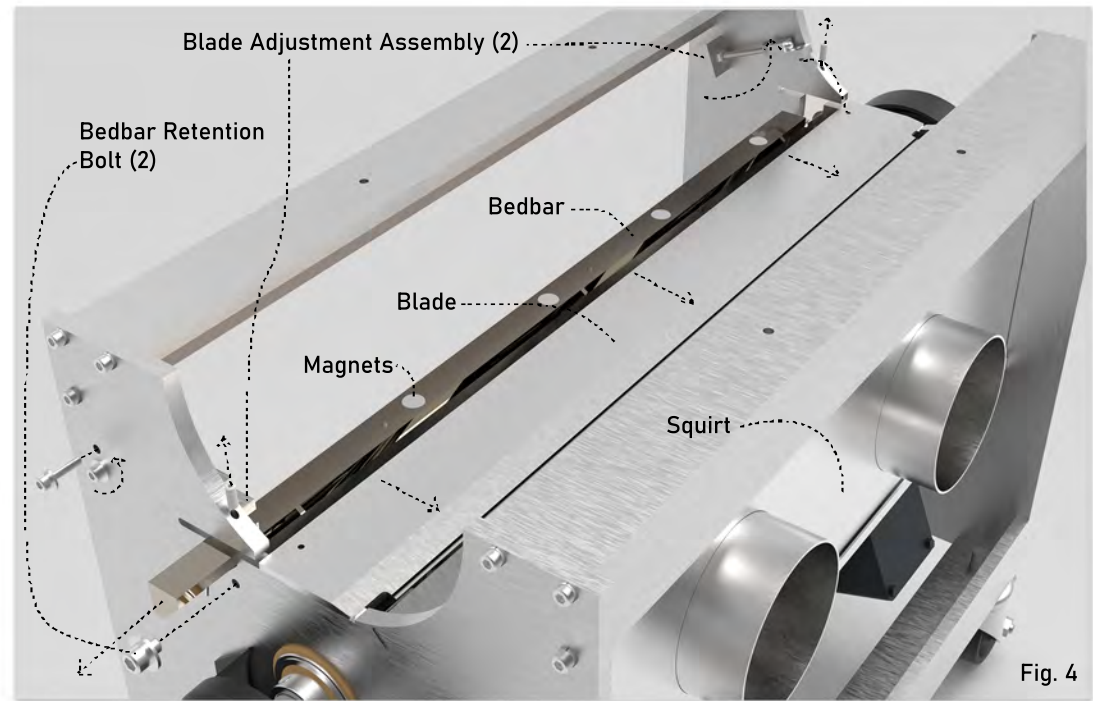

Fig. 4
- 1: **Loosen** (do not remove) the BLADE SET SCREW (2) (Fig. 4)
- 3: Swing the BLADE ADJUSTMENT ASSEMBLY UP, disconnecting the BLADE PIN (Fig. 4) from the BLADE
- 1: Remove the SQUIRT (Fig. 4).